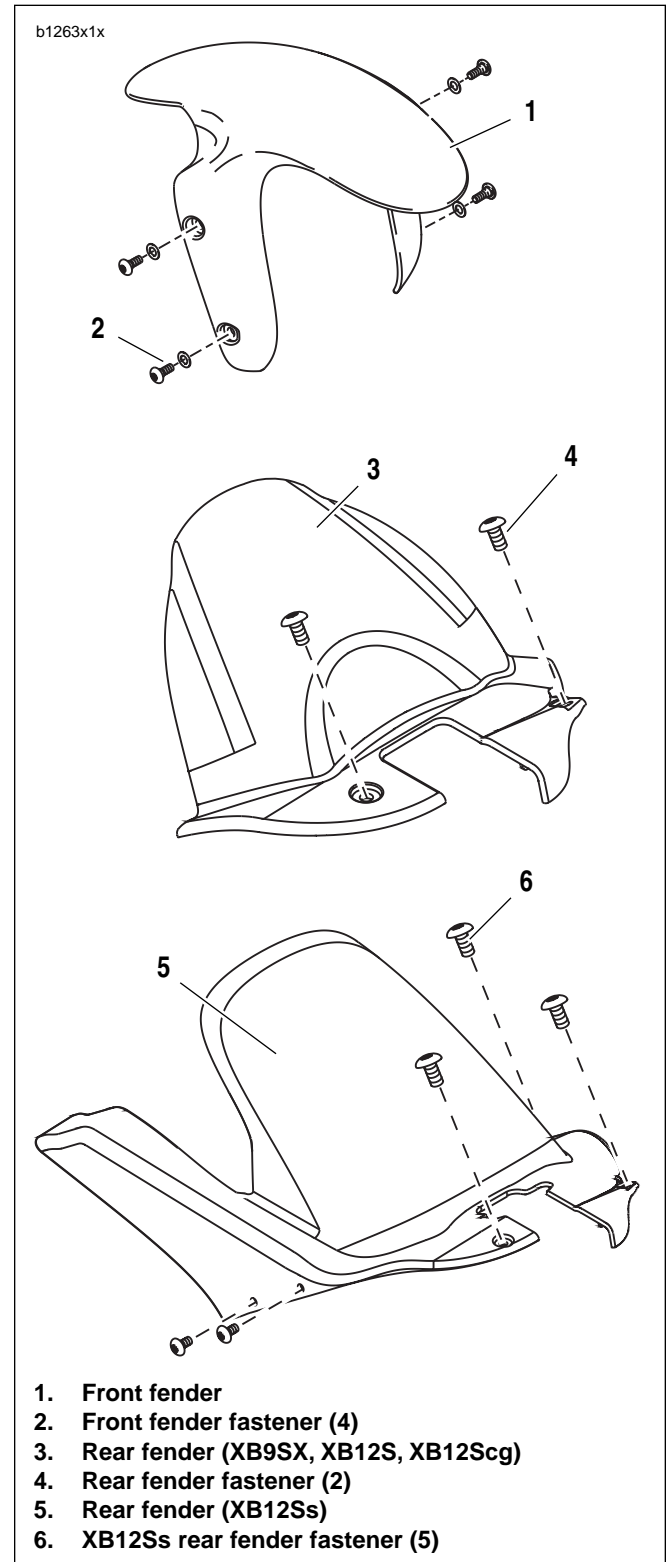

Figure 2-118. Front and Rear Fender
1. See Figure 2-118. Remove fasteners and washers (2) securing the front fender (1) to front forks.
2. Carefully remove front fender (1).
1. See Figure 2-118. Align front fender (1) to fender mounts on front forks.
2. Install front fender (1) with fasteners and washers (2), apply LOCTITE 272 and tighten to 36-48 in-lbs (4-5.4 Nm).
1. See Figure 2-118.
- a. For **XB9SX, XB12S, and XB12Scg**: Remove fasteners (4) securing the rear fender (3) to frame.
- b. For **XB12Ss**: Remove fender fasteners (6).
1. See Figure 2-118. Align rear fender to frame.
2. Install rear fender with fasteners (6).